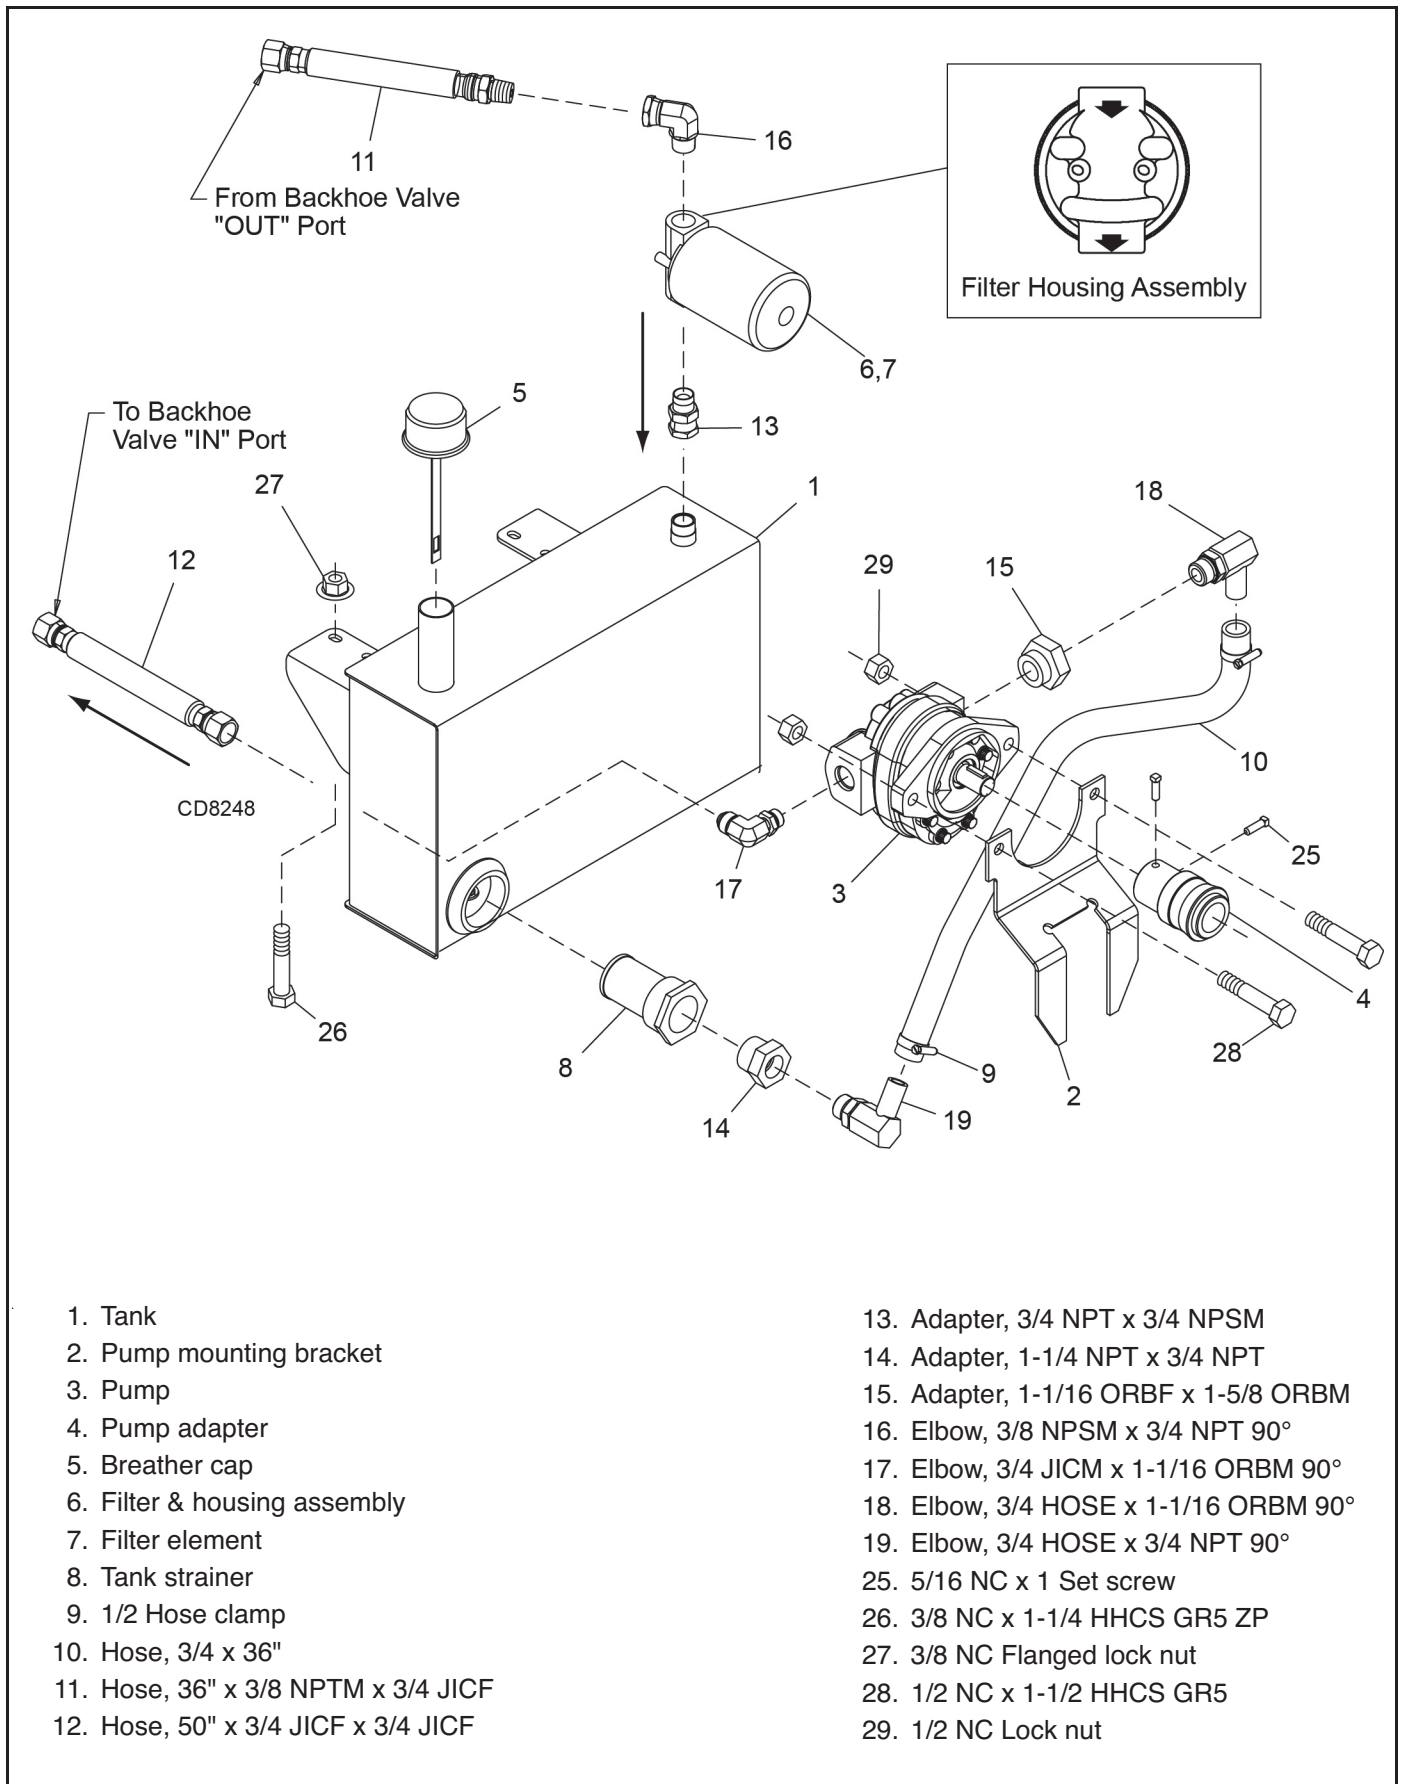

Figure 2. Pump & Reservoir Installation
Refer to Figure 2.
Attach pump mounting plate (2) to pump with bolts (28) and nuts (29), Figure 2.